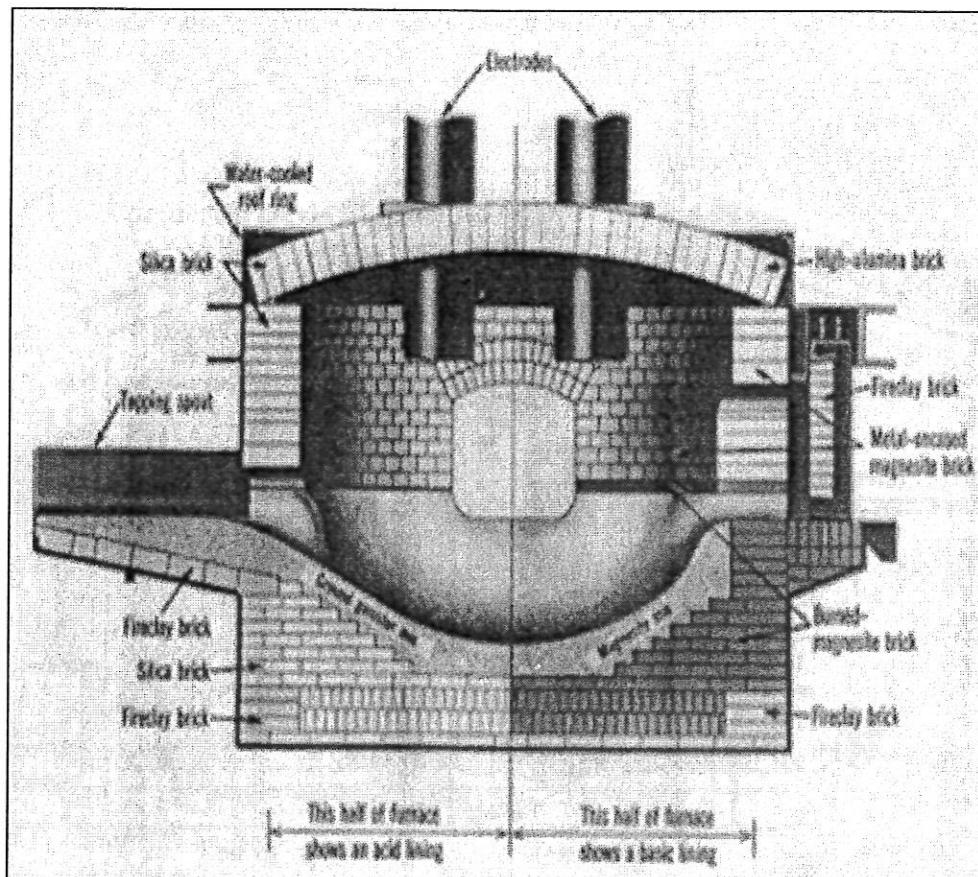

Figure 2 (b)/ Rajah 2(b)
- b) i) Name **TWO (2)** methods of steel production.
- ii) Explain the process of steel production in Figure 2(b)